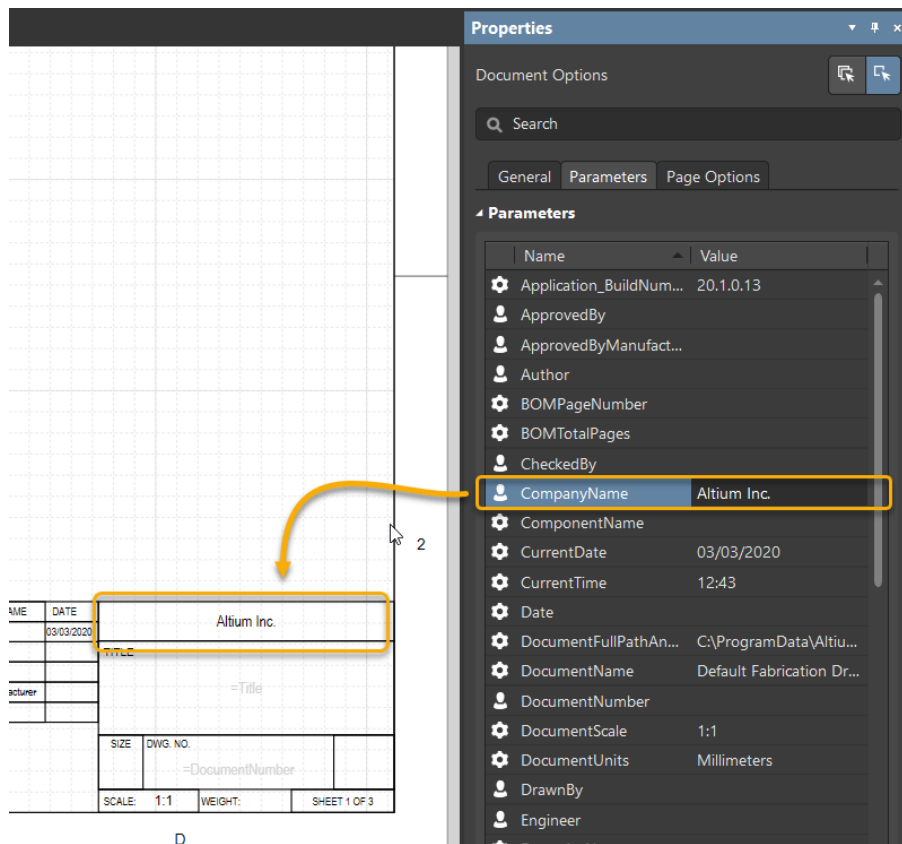

Figure 5. Editing Document Parameters
18. Under the *Parameters* tab, we'll change the value for the *CompanyName* parameter to *Altium Inc.* as shown in Figure 5.